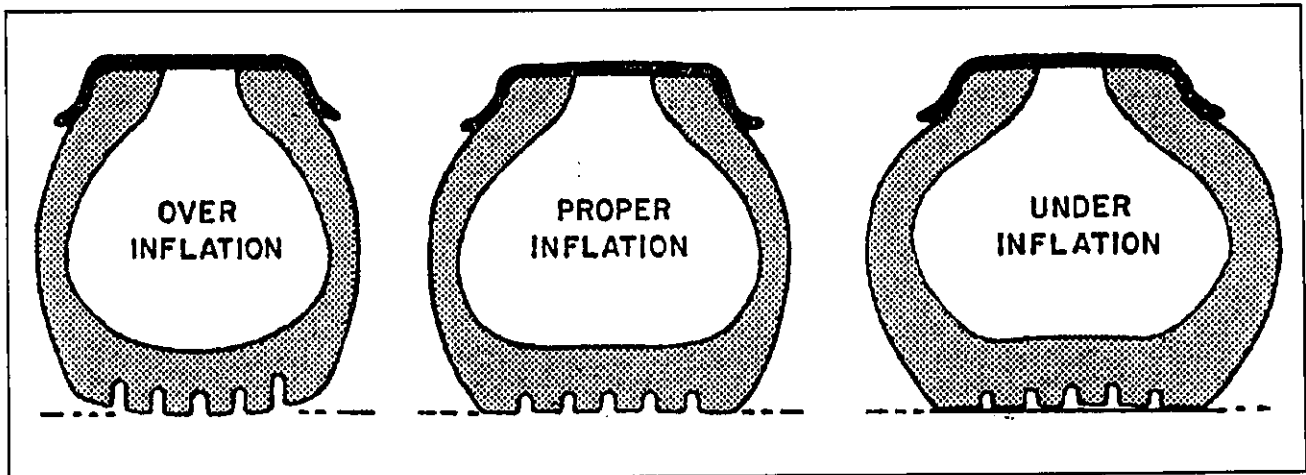

Fig. 4-10 Tire Inflation Examples
**4-11.1 Tire Inflation.** Tire inflation will cause tire to ground contact characteristics as shown in Figure 4-10. Tire inflation should be checked daily while the tire is cold, and during road stops. Checking the tire pressures while tires are hot will give a faulty increased pressure reading. Adjusting tire air pressure to the specified amount while tires are hot will produce improper tire to road contact and thus abnormal wear. Do not exceed cold inflation pressure listed on the trailer VIN plate located on the front of the semitrailer. Exceeding cold inflation pressure will result in damaged tire bodies, rims, and wheels. Replace all valve stem caps when pressure checking/adjusting has been completed. remove any foreign objects from between duals.